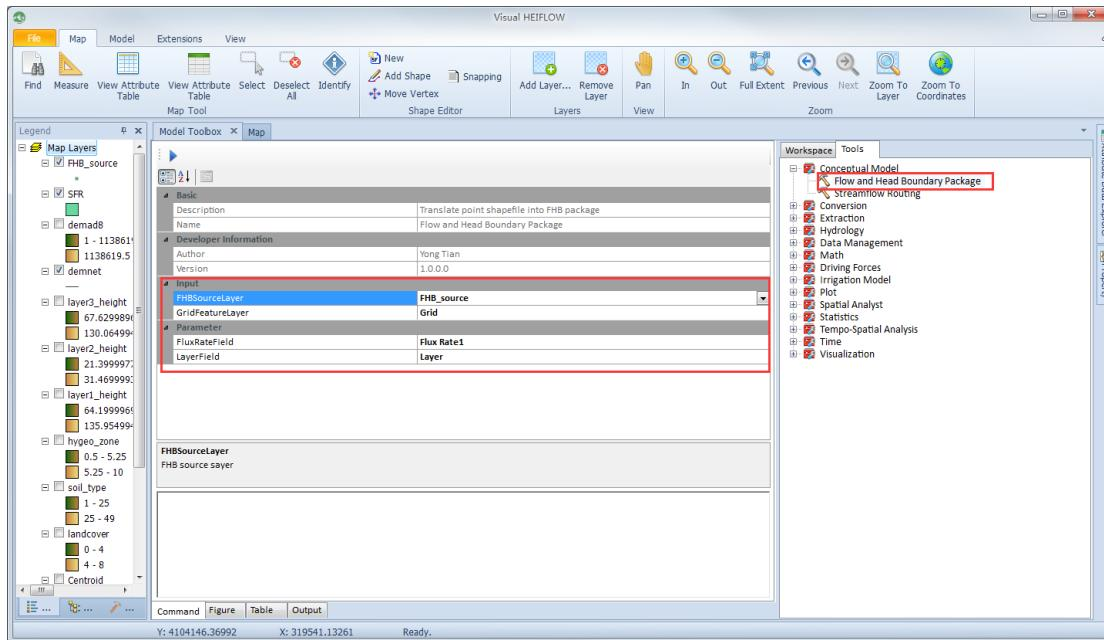

Figure 5-30. Input and parameter settings for the Flow and Head Boundary Package tool.
- 2) In the Model Toolbox View, select Conceptual Model -> Flow and Head Boundary Package and double click it, set the inputs as shown in Figure 5-30.